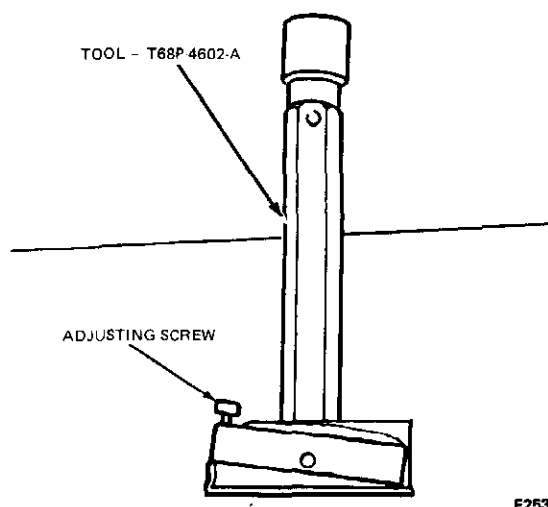

FIG. 1 Positioning Tool on V-Magnet
- b. From the left side of the vehicle, position the magnetized Tool T68P-4602-A on the vee magnet with the adjusting screw to the left (Fig. 1). Adjust the dial on the tool with the adjusting screw until the left-hand edge of the bubble is exactly on the zero line.
- c. Now position the magnetized tool on a U-joint bearing cap as shown in Fig. 2 with the tool in the same relative position as it was on the vee magnet (Fig. 1).